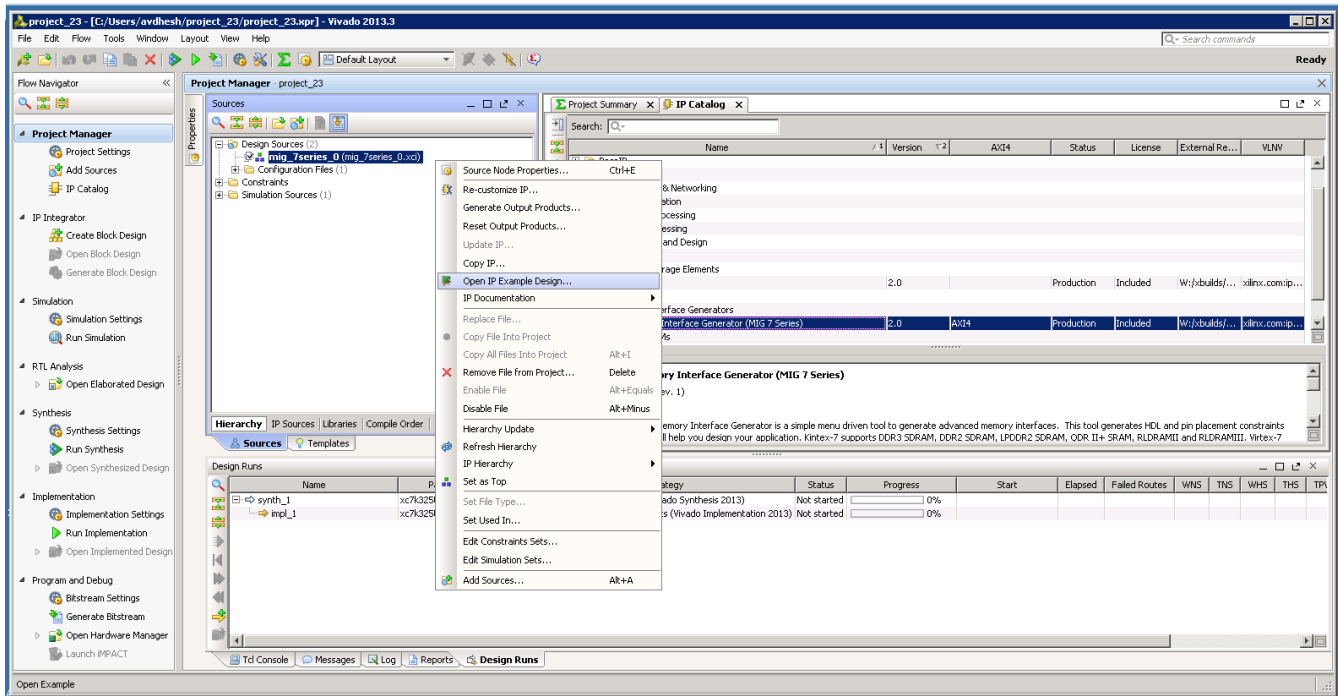

Figure 1-36: Open IP Example Design
9. The Vivado Design Suite supports **Open IP Example Design** flow. To create the example design using this flow right-click the IP in the **Source Window**, as shown in Figure 1-36 and select.